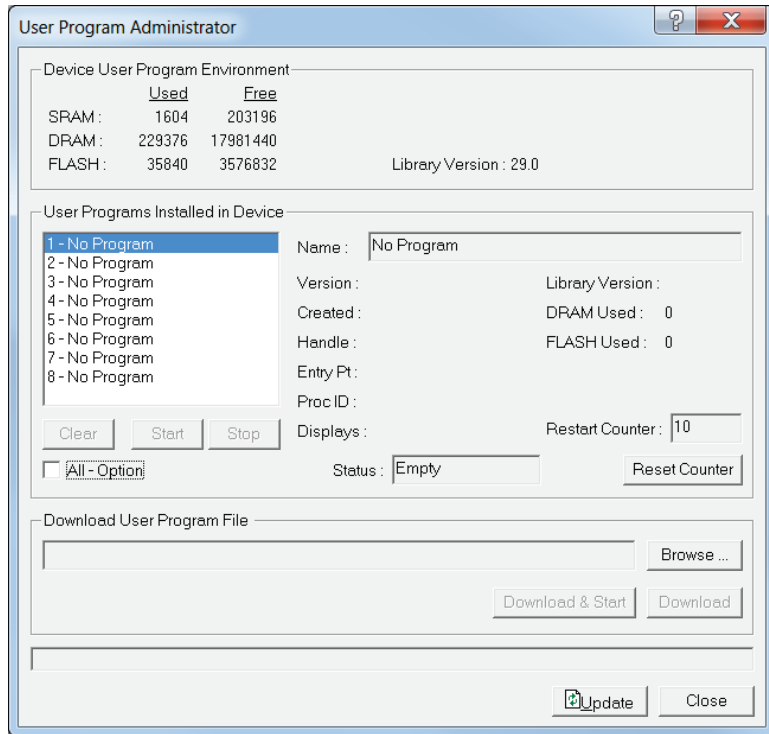

Figure 6. User Program Administrator
4. Select **Utilities > User Program Administrator** from the ROCLINK menu bar. The User Program Administrator screen displays (see *Figure 6*):